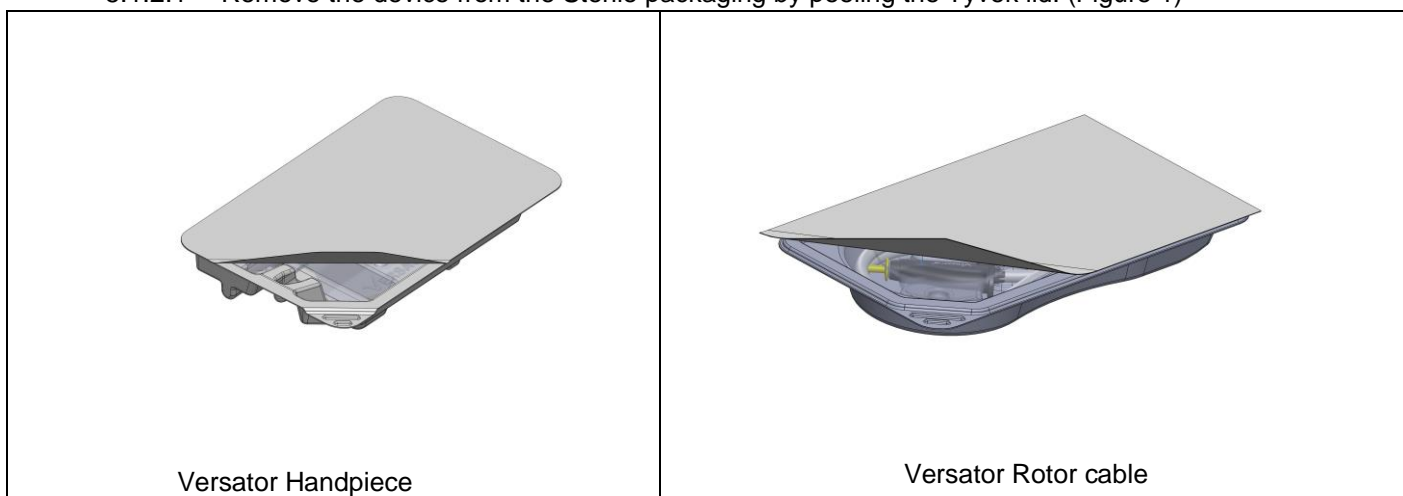

Figure 1: Removing the device from packaging
5.1.2.1 Remove the device from the Sterile packaging by peeling the Tyvek lid. (Figure 1)